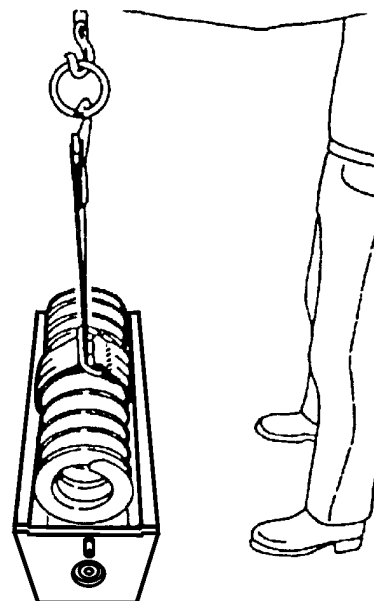

Fig. 14.54. Removing Spring from Coffin
4. Using pry bar position spring in center of coffin. Remove front and rear retainers from track spring and coffin. Attach sling to hoist and remove track spring from coffin as shown in Fig. 14.54.
1. Attach sling to hoist and install track spring into coffin. Install front and rear retainers to track spring and position in coffin as shown in Fig. 14.54.